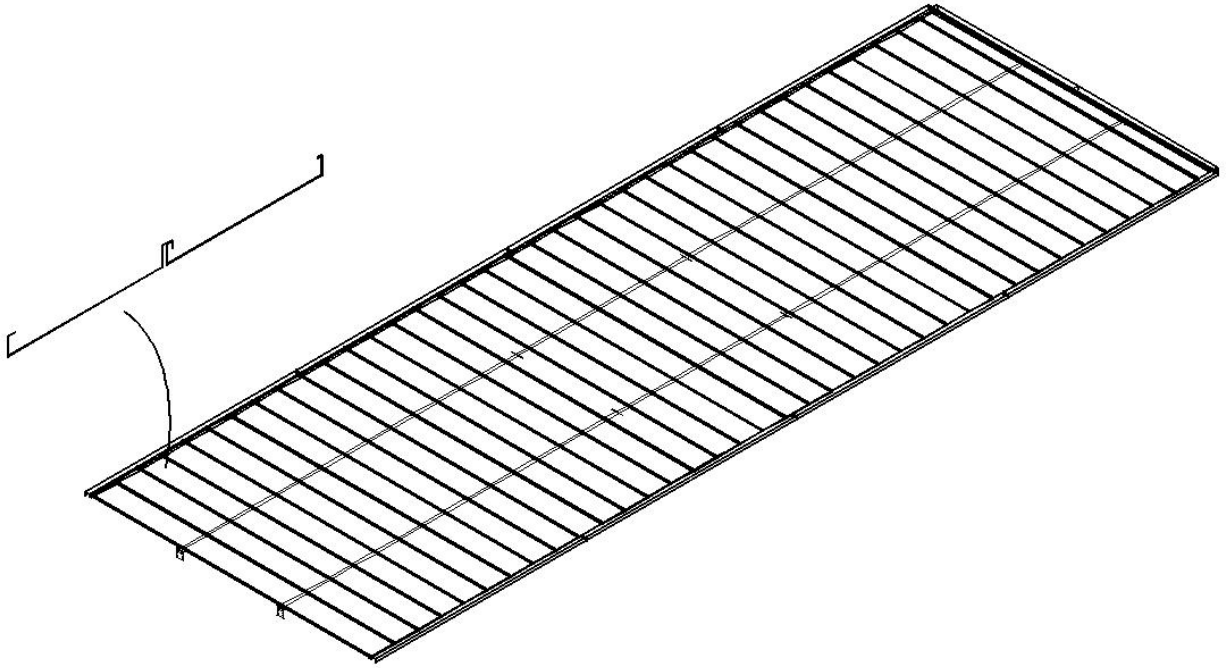

Fig. 2.13
4. Installate the roof cover ,connect one by one,then fix them on to the roof support beam with nails.And do some sealing with the transparent pastern shown in Fig.2.13